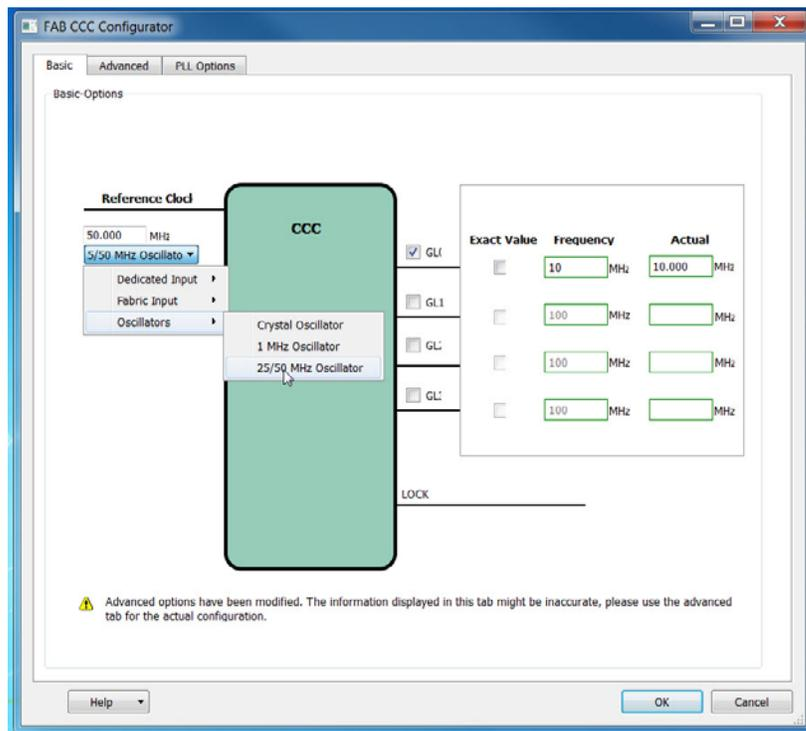

Figure 3-4 • FCCC Configurator
11. Click the **Basic** tab. For the Reference Clock, select **Oscillators** and then **25/50 MHz Oscillator** (**Oscillators > 25/50 MHz Oscillator**). Click **OK** to close the FAB CCC Configurator (Figure 3-4).